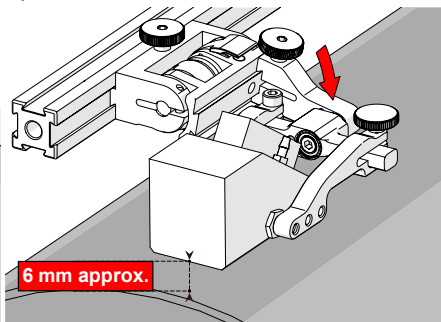

Fig. 50 - Lower to scanning surface
2. Push the probe holder yoke down toward the inspection surface until the wedge is approximately 6 mm (1/4 in) above the inspection surface (Fig. 50).